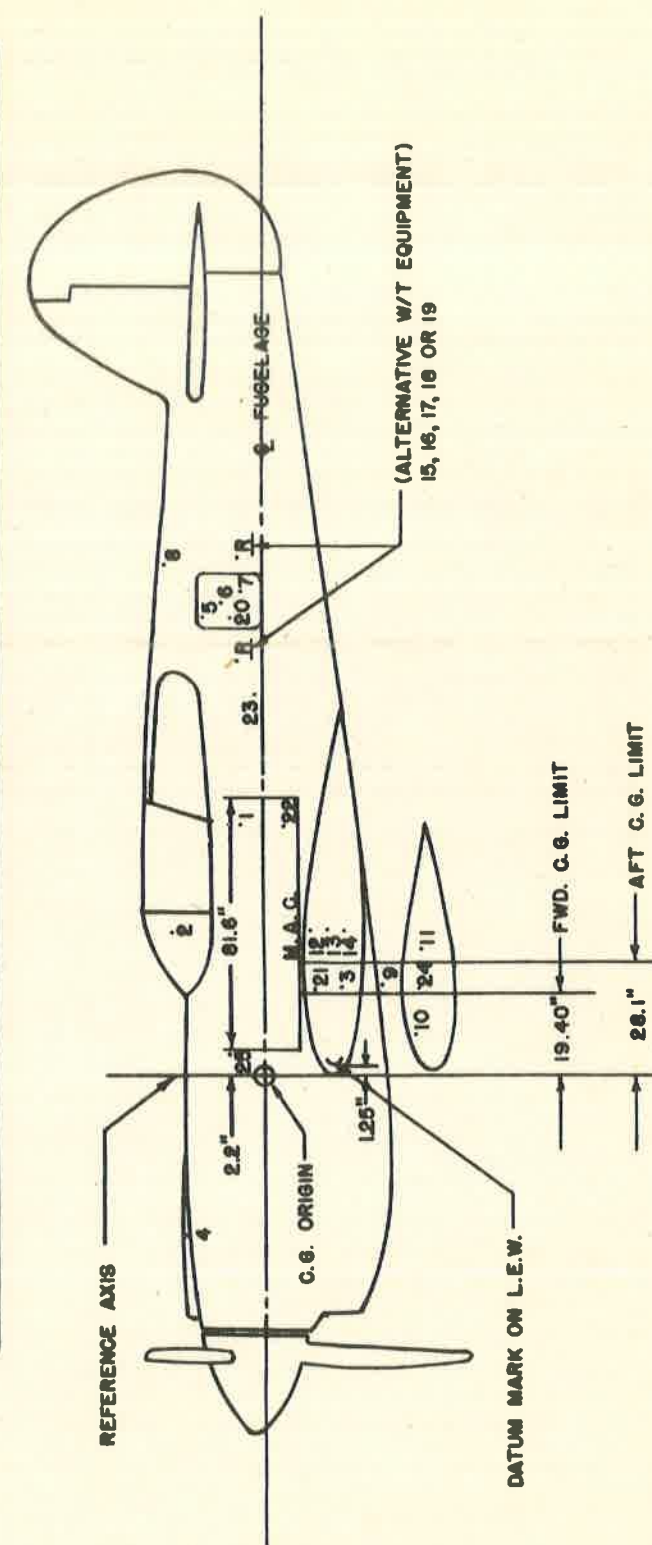

FIG. 125A LOADING & C.G. DIAGRAM
1. The information given in Sections I to IV inclusive in the main body of the handbook applies also to the Kittyhawk IA aircraft except the "Loading and C.G. Diagrams." A corresponding diagram, which applies to the Kittyhawk IA only is included in this Appendix at Fig.125A.